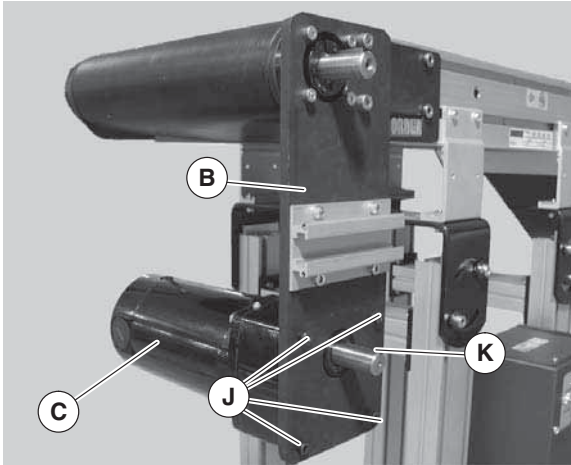

Figure 15
5. Remove four (4) screws (Figure 15, item J). Detach motor (C) from the mounting plate (B). Retain motor output shaft key (K).
6. Install new motor using the four (4) mounting screws (Figure 15, item J).